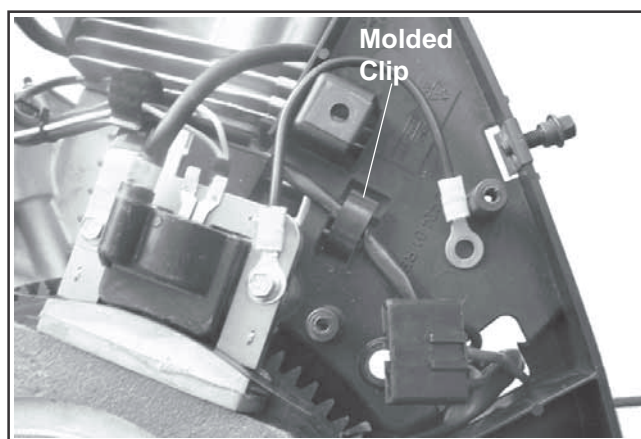

Figure 10-83. Lead Routing Details.
9. Make sure the leads are under the molded clip on the starter side. See Figure 10-83.